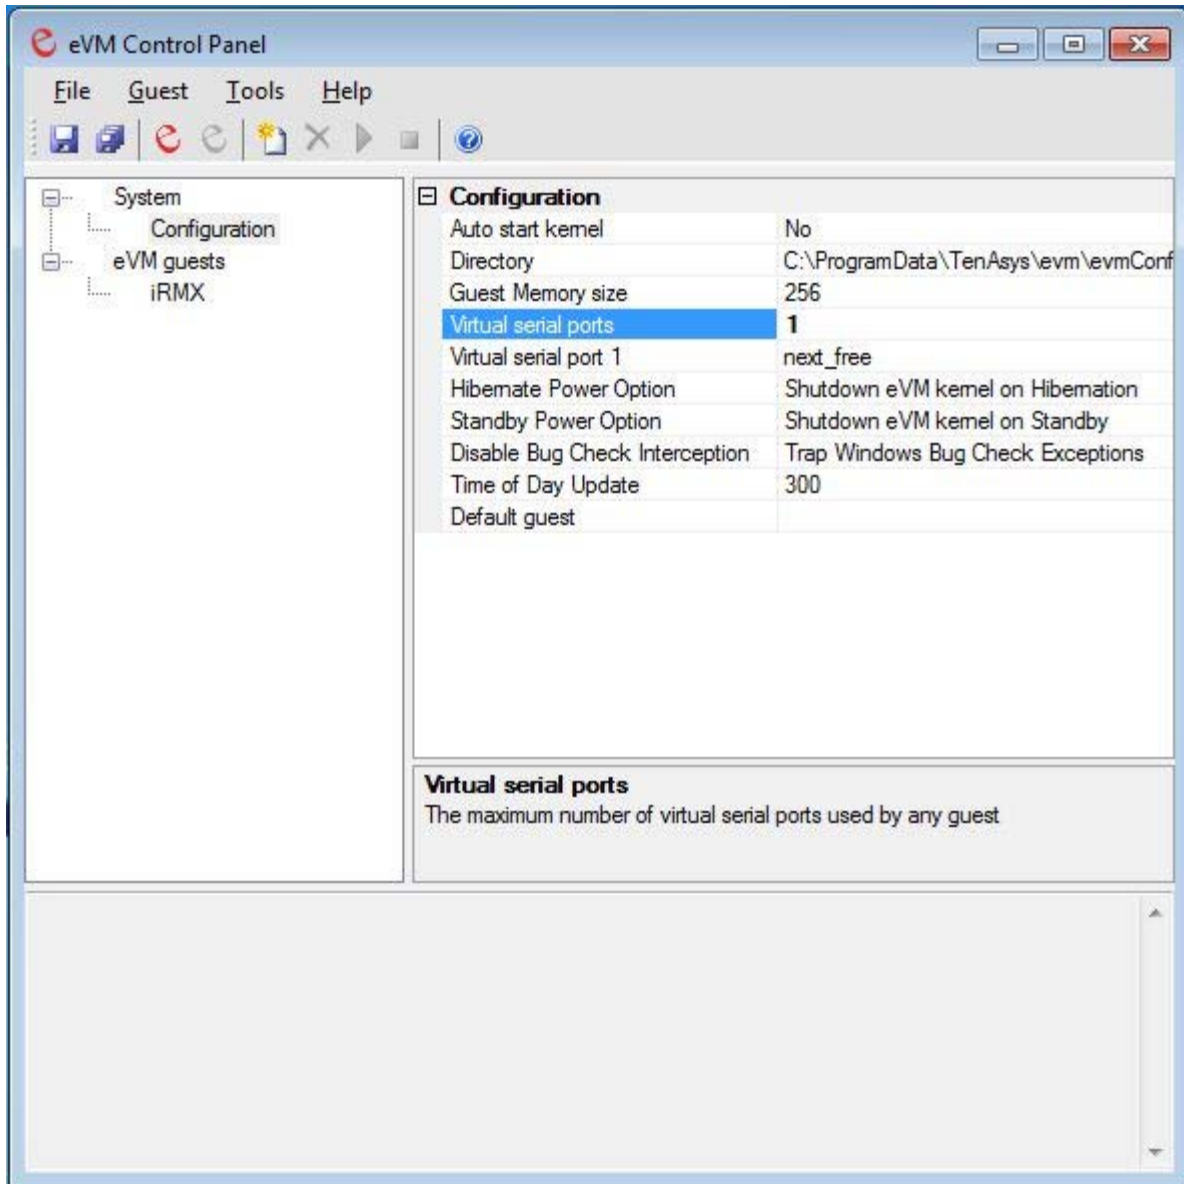

Figure 4.22 - eVM Control Panel, Virtual Serial Port Added
2. Double-click on the '0' value in the box next to *Virtual serial ports*, and enter '1' Figure 4.22